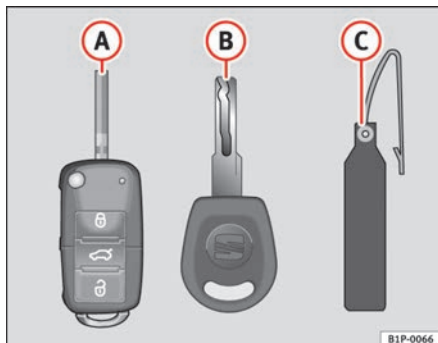

Fig. 62 Set of keys
- one remote control key ⇒ fig. 62 (A) with folding key bit,
- one key without remote control (B),
- one key tab (C) with the key number.
Spare keys cannot be issued without the key number on the key tab ⇒ fig. 62 (B). Therefore:
- Use both keys that have been delivered with the vehicle ⇒ page 99, fig. 62, the key fitted with the remote control  and the normal key .